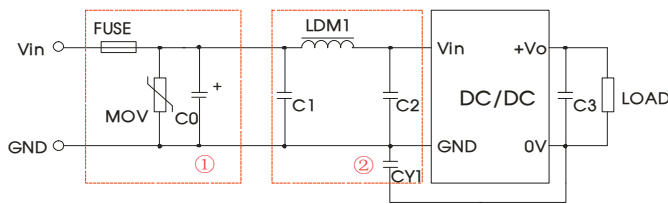

Fig. 3
Notes: We use Part ① in Fig. 3 for immunity and part ② for emissions test.